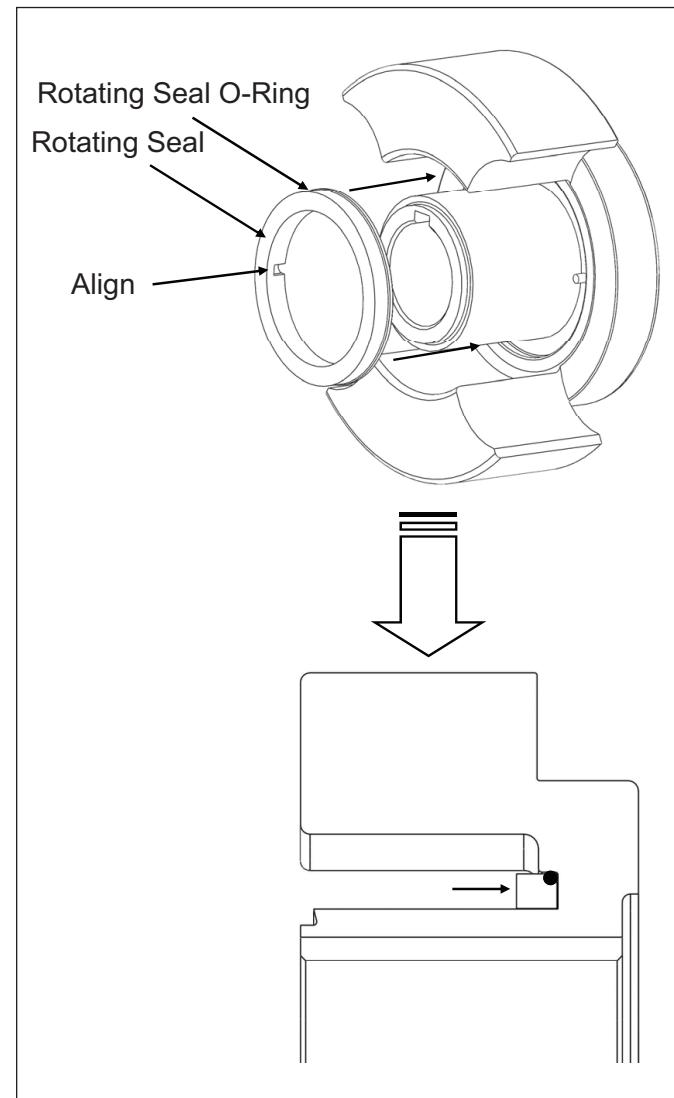

Figure 30. Inserting Rotating O-Ring
4. Slide the rotating seal onto the rotor hub (*Figure 30*) making sure to align the slots on the seal to the drive pins in the rotor. Press the seal down until it seats inside of the rotor.